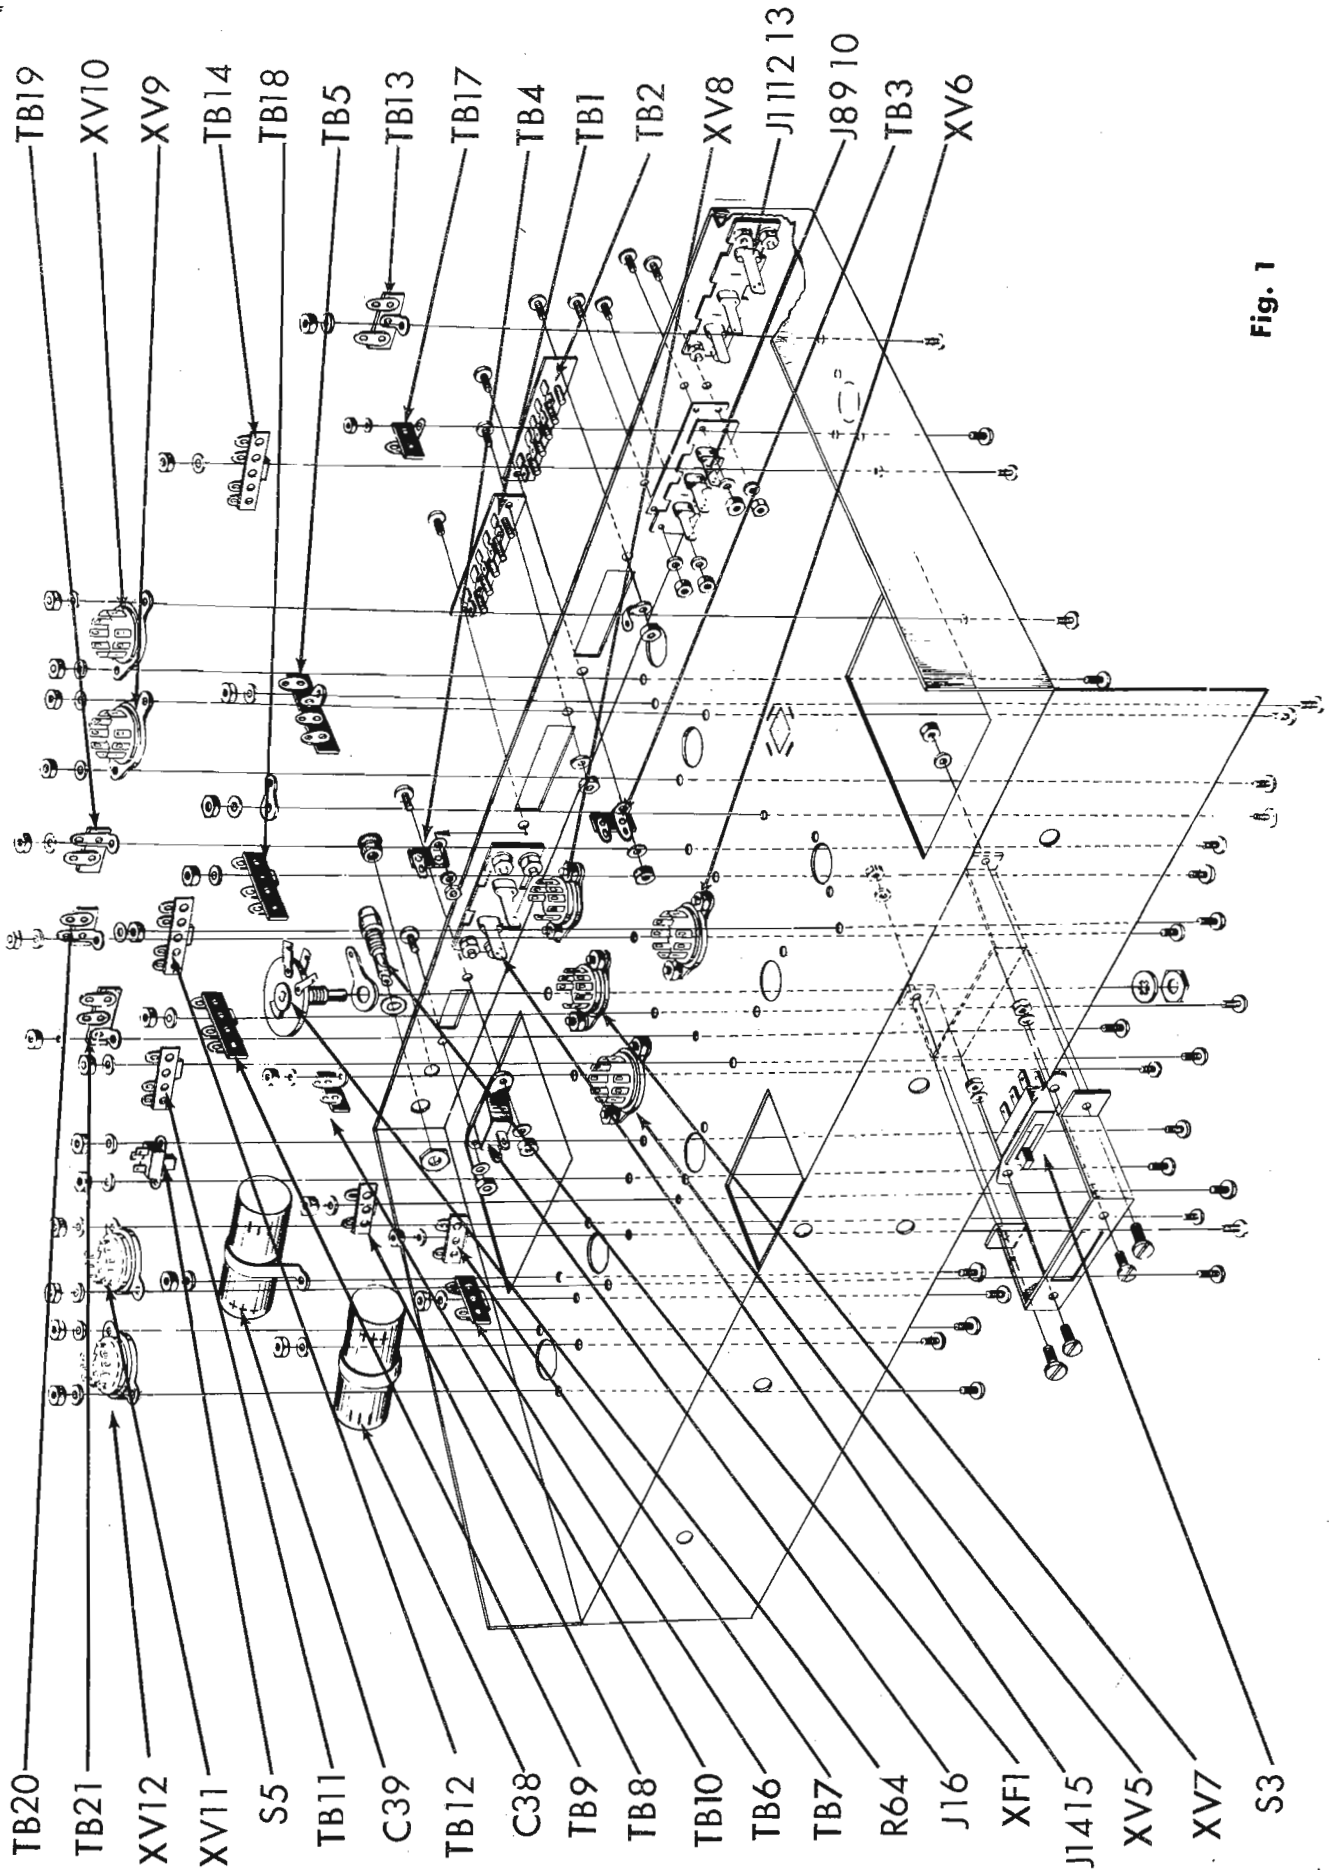
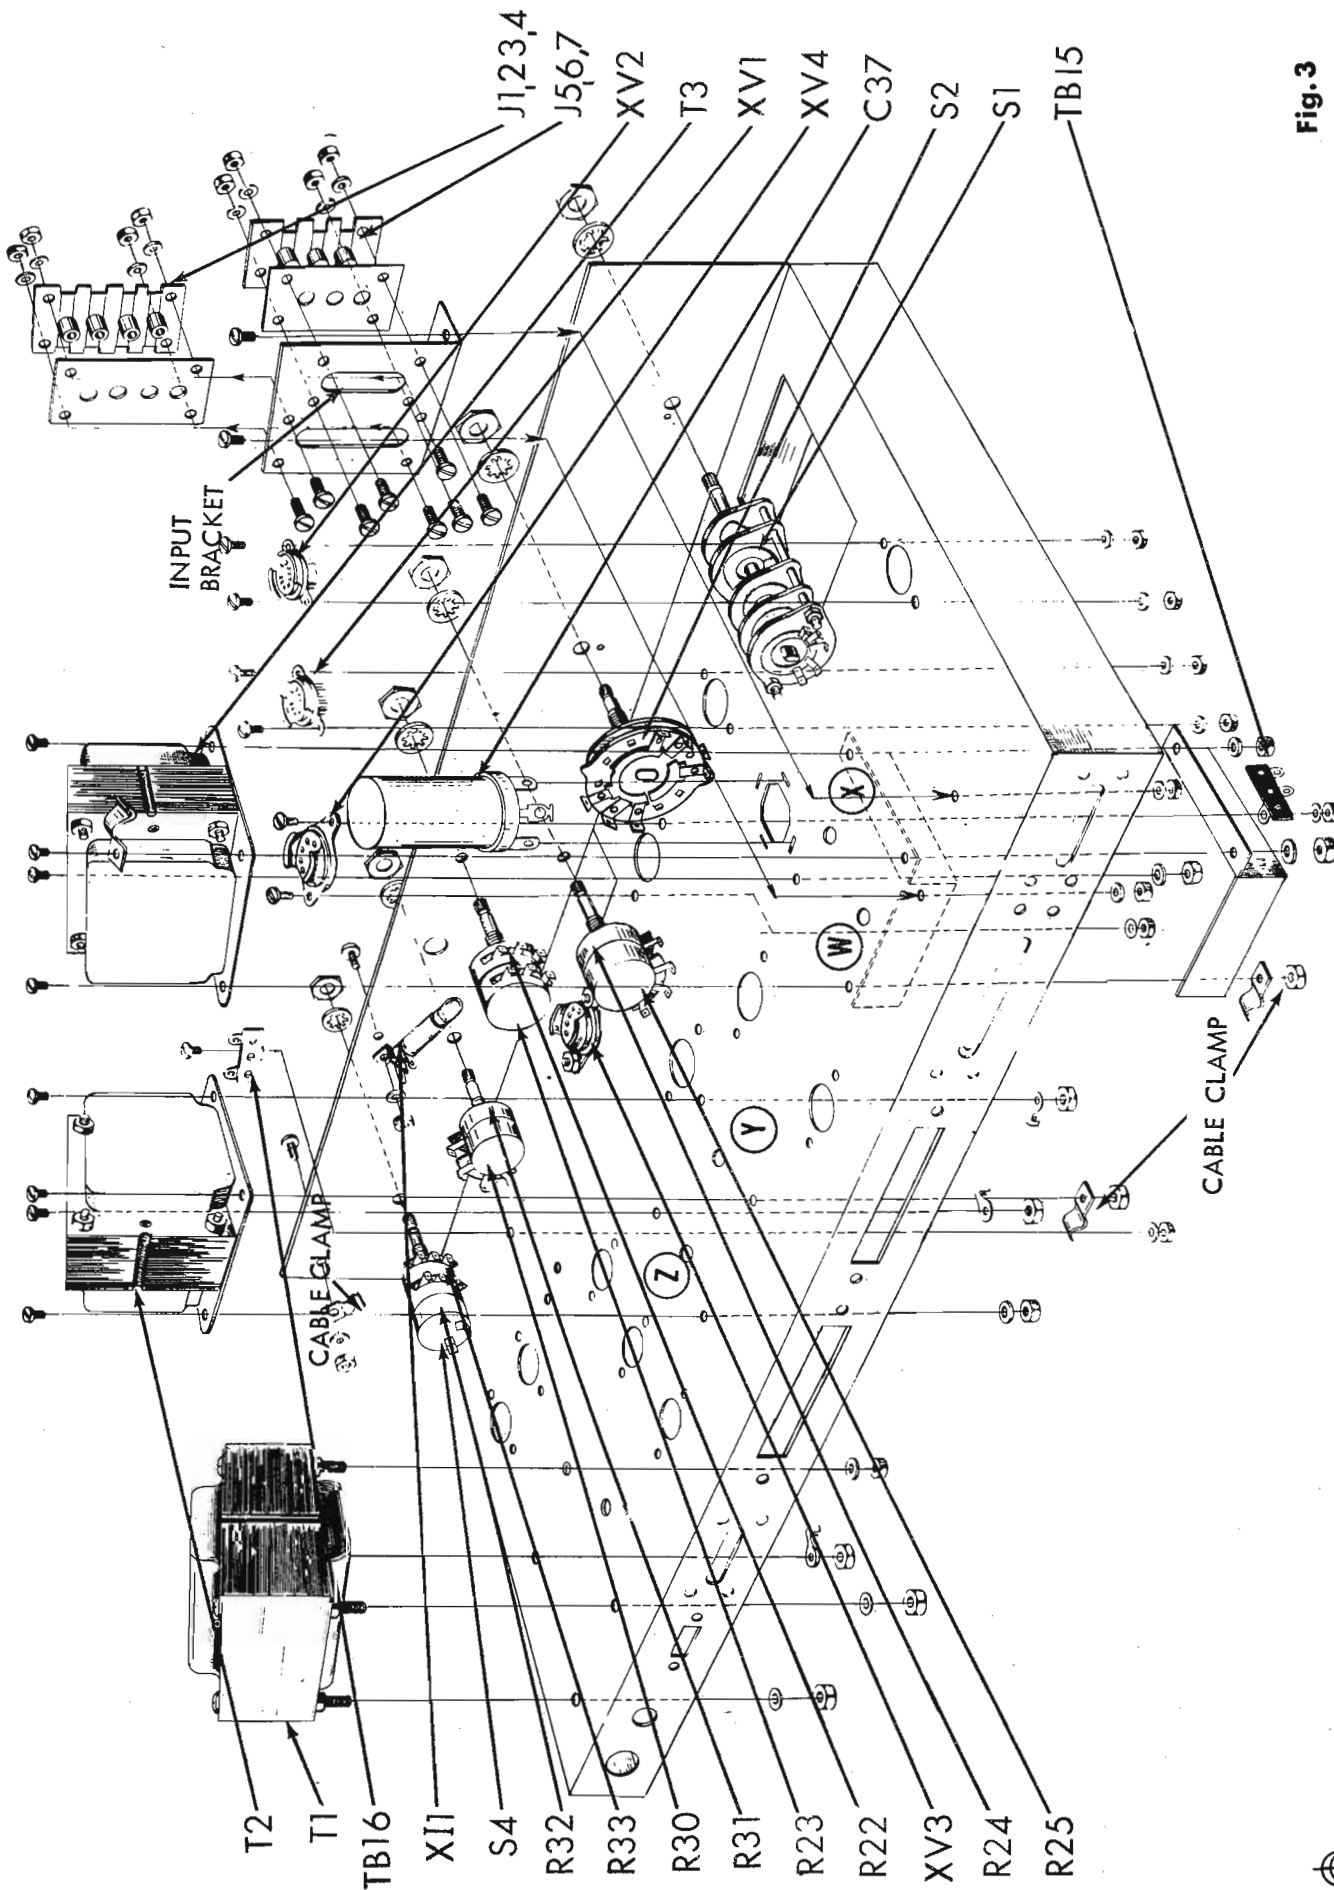
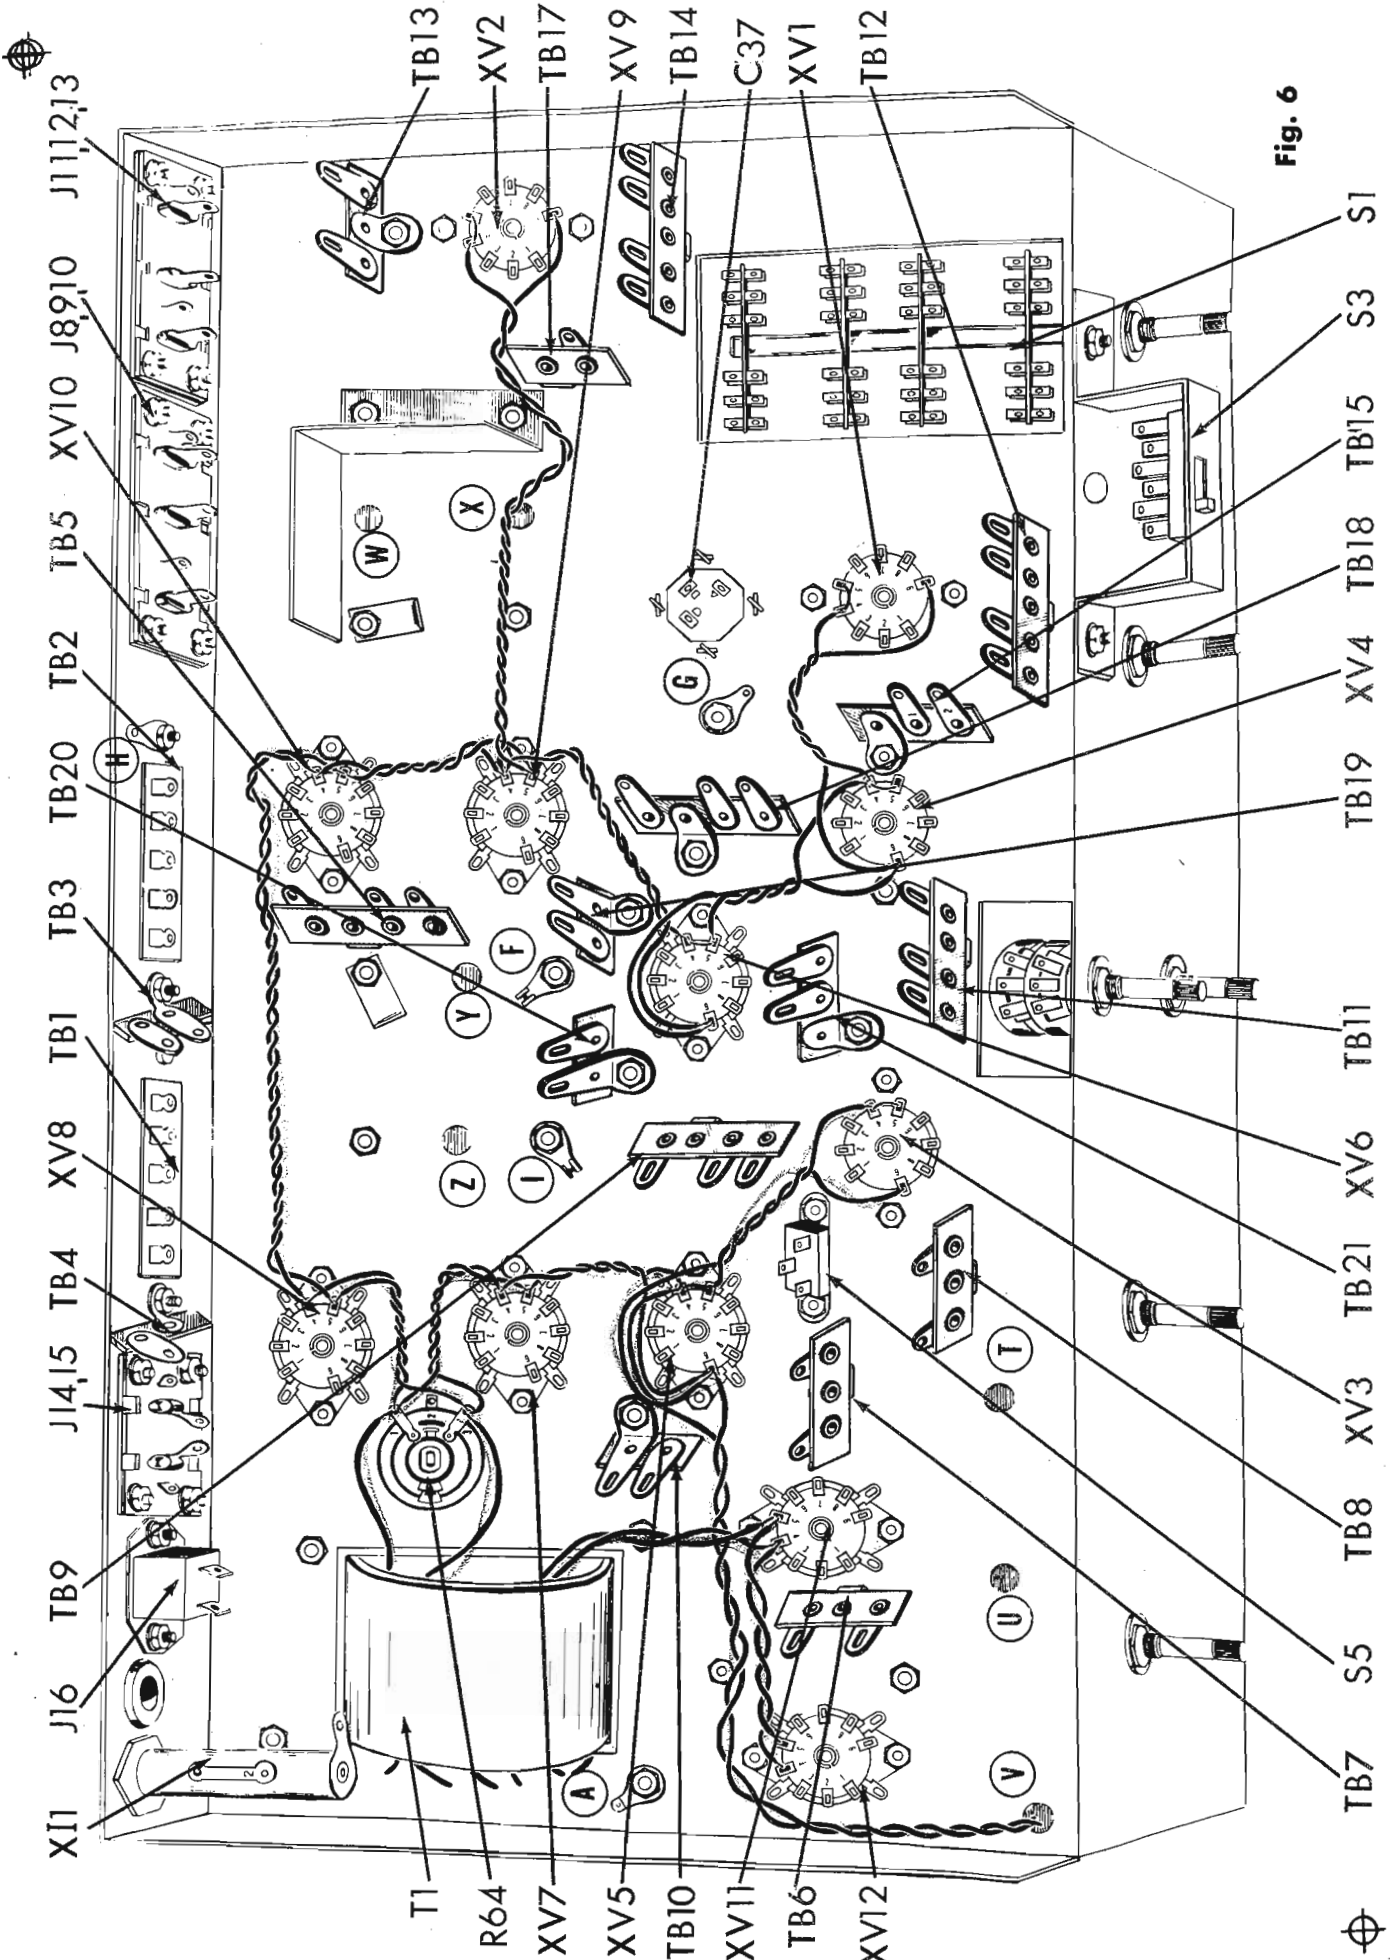

Fig. 1
Fig. 3
Fig. 6
Note: In addition to Fig. 1, it will be required to refer to Fig. 6 in the following mounting procedure in order to settle such matters as orientation of terminal boards, keyways on tube sockets, etc. The wiring which comes later will be greatly facilitated if, after mounting each part, the symbol number of the part is written on the bottom of the chassis next to the part with a crayon or soft pencil.
1. (✓) Fig. 1. Mount the 9 pin miniature tube socket, XV12, as shown. Use two #4-40 screws, two #4 lockwashers, and two #4-40 hex nuts. Note the mounting direction in figure 6.
2. (✓) Fig. 1. Similar to the above, mount 9 pin miniature sockets, XV11, XV5, XV6, XV7, XV8, XV9 and XV10. Use two #4-40 screws, two #4 lockwashers, and two #4-40 hex nuts on each. In each case, note the mounting direction in figure 6.
3. (✓) Fig. 1. Mount the 3 terminal input jack strip, J8, 9, 10 as shown. Use four #6-32-screws, four #6 lockwashers and four #6-32 hex nuts. Mount the 3 hole insulator between the chassis and the input jack strip. (Fig. 10).
4. (✓) Fig. 1. Mount the 3 terminal input jack strip, J11, 12, 13, as shown. Note mounting direction in figure 10 Use four #6-32 screws, four #6 lockwashers and four #6-32 hex nuts. Mount a 3 hole insulator between the chassis and the input jack strip. (Fig. 10)
5. (✓) Fig. 1. Mount the double pole 2 position slide switch, S3, into the switch bracket, as shown. Use two #4-40 screws, two #4 lockwashers and two #4-40 hex nuts.
6. (✓) Fig. 1. Mount the switch bracket with the switch (previously mounted in step 5) on the chassis, as shown. Use two #6-32 screws, two #6 lockwashers and two #6-32 hex nuts.
7. (✓) Fig. 1. Mount the 2 terminal tape output jack strip, J14, 15, as shown. Use four #6-32 screws, four #6 lockwashers and four #6-32 hex nuts. Mount a 2 hole insulator between the chassis and the jack strip.
8. (✓) Fig. 1. Mount the 5 screw terminal board, TB1, as shown. Use two #6-32 screws, two #6 lockwashers and two #6-32 hex nuts. Under one of the lockwashers, mount one post right terminal strip, TB4.
9. (✓) Fig. 1. Mount the 5 screw terminal board, TB2, as shown. Use two #6-32 screws, two #6 lockwashers and two #6-32 hex nuts. Under the lockwasher, mount one post right with ground terminal strip, TB3. Under the remaining nut, mount a #6 ground lug.
10. (✓) Fig. 1. Mount the fuseholder, XF1, as shown. Use rubber washer against the outside of the chassis under the wider part of the holder. Slide the large nut over the fuseholder on the inside of the chassis. DO NOT tighten nut.
11. (✓) Fig. 1. Push a rubber grommet into the 3/8" hole next to the fuseholder.
12. (✓) Fig. 1. Mount the convenience outlet, J16, as shown. Use two #6-32 screws, two #6 lockwasher and two #6-32 hex nuts.
13. (✓) Fig. 1. Mount the 30 mfd, 400V electrolytic capacitor, C38, as shown. Use one #6-32 screw, one #6 lockwasher and one #6-32 hex nut. Note direction of positive side.
14. (✓) Fig. 1. Mount the 30 mfd, 400V electrolytic capacitor, C39, as shown. Use one #6-32 screw, one #6 lockwasher and one #6-32 hex nut. Note direction of positive side. (It is the reverse of C38 in step 13 above.)
15. (✓) Fig. 1. Mount hum bucking potentiometer, P64, as shown. Use one 3/8" lockwasher and one 3/8 hex nut. Between the potentiometer and the chassis, use one 3/8 pot grounding lug. When tightening potentiometer, line up the lug with terminal #2. The grounding lug will eventually be soldered to this terminal.
16. (✓) Fig. 1. Mount the following terminal strips as shown. Use one #6-32 screw, one #6 lockwasher and one #6-32 hex nut on each. The terminal strips to be mounted in this manner are: three post, two left, TB5; two post, TB6; two post, TB7; two post, TB8; three post, two right, TB9; one post left with ground, TB10; three post, two right, TB11; four post, TB12; two post, TB13; four post, TB14; one post left, TB17; three post, two right, TB18; one post left with ground, TB19; one post right with ground, TB20, and two post right, TB21.
17. (✓) Fig. 1. Mount the single pole 2 position slide switch, S5, as shown. Use two #4-40 screws, two #4 lockwashers and two #4-40 hex nuts.
18. (✓) Fig. 1. Mount the #6 ground lug "G" with one #6-32 screw, one #6 lockwasher and one #6-32 hex nut. Note position of lug on figure 6.
1. (✓) Fig. 3. Mount the 9 pin miniature tube socket with shield support, XV2, from the top of the chassis. Use two #4-40 screws, two #4 lockwashers, and two #4-40 hex nuts. Note mounting direction in figure 6.
2. () Fig. 3. Similar to the above, mount the 9 pin miniature tube socket with shield support, XV1 and XV3, from the top of the chassis. Use two #4-40 screws, two #4 lockwashers and two #4-40 hex nuts on each. Note mounting direction figure 6.
3. () Fig. 3. Similar to the above, mount the 9 pin miniature tube socket with shield support, XV4, from the top of the chassis. Use two #4-40 screws, two #4 lockwashers and two #4-40 hex nuts. Note mounting direction in figure 6. Under one of the lockwashers, under the chassis, mount a two post right terminal strip, TB15.
4. (✓) Fig. 3. Mount the dual concentric treble control potentiometer with on-off switch, R32, R33, S4, as shown. Slide the locating lug on the potentiometer into the small hole adjacent to the mounting hole. Use one 3/8 lockwasher and one 3/8 hex nut (stock # 18047).
5. (✓) Fig. 3. Mount the dual concentric bass control potentiometer, R30, R31, as shown. Slide the locating lug on the potentiometer into the small hole adjacent to the mounting hole. Use one 3/8 lockwasher and one 3/8 hex nut. (stock # 18048)
6. (✓) Fig. 3. Mount the dual 250KΩ level control potentiometer, R24, R25, as shown. Slide the locating lug on the potentiometer into the small hole adjacent to the mounting hole. Use one 3/8 lockwasher and one 3/8 hex nut. (stock # 18046)
7. (✓) Fig. 3. Mount the dual 750KΩ focus control potentiometer, R22, R23 into the small hole adjacent to the mounting hole. Use one 3/8 lockwasher and one 3/8 hex nut (stock # 18045).
8. (✓) Fig. 3. Mount the function selector switch, S2, as shown. Slide the locating lug on the switch into the small hole adjacent to the mounting hole. Use one 3/8 lockwasher and one 3/8 hex nut.
9. () Fig. 3. Mount the input selector switch, S1, as shown. Slide the locating lug on the switch into the small hole adjacent to the mounting hole. Use one 3/8 lockwasher and one 3/8 hex nut.
10. (✓) Fig. 3. Mount the two post terminal strip, TB16, as shown. Use one #6-32 screw, one #6 lockwasher and one #6-32 hex nut.
11. (✓) Fig. 3. On the power transformer, T1, cut both green leads, the red-yellow lead and the white lead to 2 1/2"; both yellow leads to 3 1/2"; both red leads and both black leads to 5 1/2". Mount the power transformer as shown. Position so that the green and yellow leads face the center of the chassis (see figure 6). Use three #8 lockwashers and three #8-32 hex nuts on three of the screws. On the fourth screw, use one #8 grounding lug and one #8-32 hex nut.